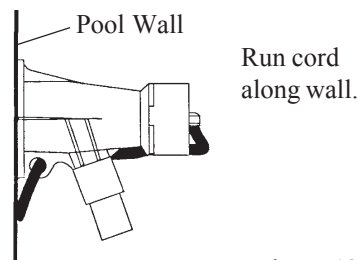

Figure 12.
4. Route cord through the cord hole in the body; see Figure 12.
11. Snap cap onto end of body and turn so that the electrical cord is pointing down; see Figure 12.